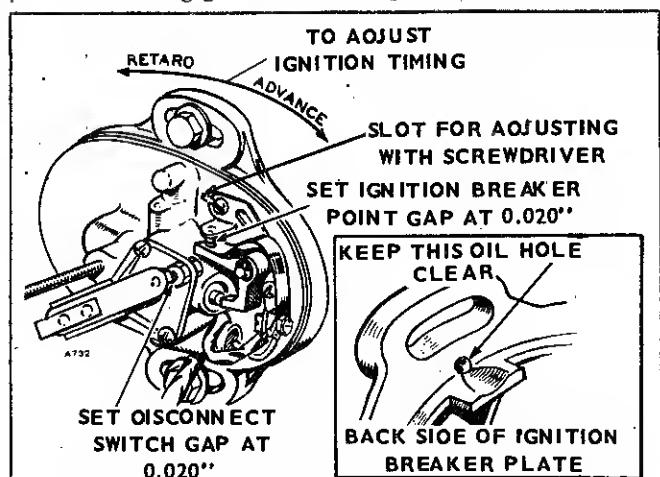

FIGURE 35. ADJUSTING IGNITION TIMING
Check gap with a feeler gauge for .020 in. Adjust the gap by loosening the adjustment screw and moving the stationary contact. Tighten the screw and check the gap (Fig. 35). Check the points for cleanliness and pitting. Clean the points with paper or gauze tape. If they are defective or excessively pitted, replace them.
3. If ignition timing isn't correct, align the 5° ATC mark and the timing pointer, then loosen the breaker plate capscrews and rotate the plate so the light goes out. Rotating clockwise advances timing, counterclockwise retards it (Fig. 35).
2. Run the engine at rated speed and check timing with the light. If timing is incorrect, loosen the breaker plate mounting screws and correct it by rotating the plate. Rotating clockwise advances timing, counter clockwise retards it. Tighten the plate and recheck the timing point. See Figure 35.